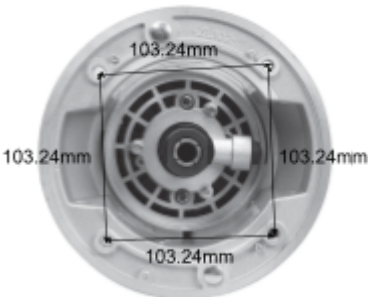

Figure 10
1. **Remove Baseplate:** To mount the router in a third-party router table or a custom-built table, remove the four baseplate screws (23) from the baseplate (19). Then, remove the baseplate.
2. **Screw Thread Identification:** The four baseplate screw holes are threaded with ¼ UNC screws, which are used to secure the baseplate to the base (20) and can also be used for **table mounting**.
3. **Screw Hole Spacing 103.24mm:** **Figure 10** shows the spacing dimensions of the baseplate screw holes.